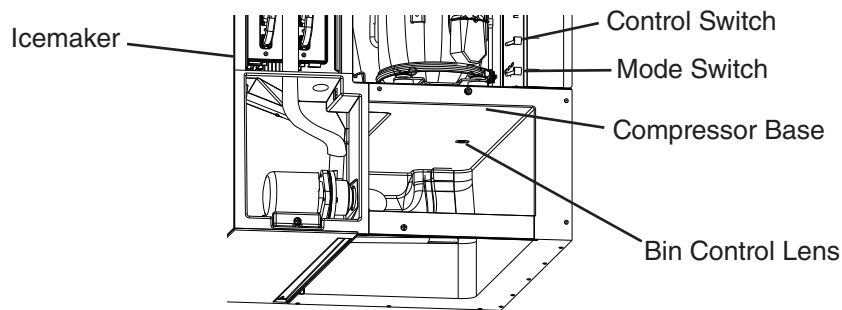

Fig. 10a
7) 1 min. fill cycle begins. Place an object 5" to 7" (127 to 178 mm) away from the bin control lens. See Figs. 10a, 10b, and 10c. 15 sec. later, the icemaker shuts down. Remove the object from the bin control lens. 30 sec. later, the icemaker restarts. For bin control shutdown times per cycle, see the table below: